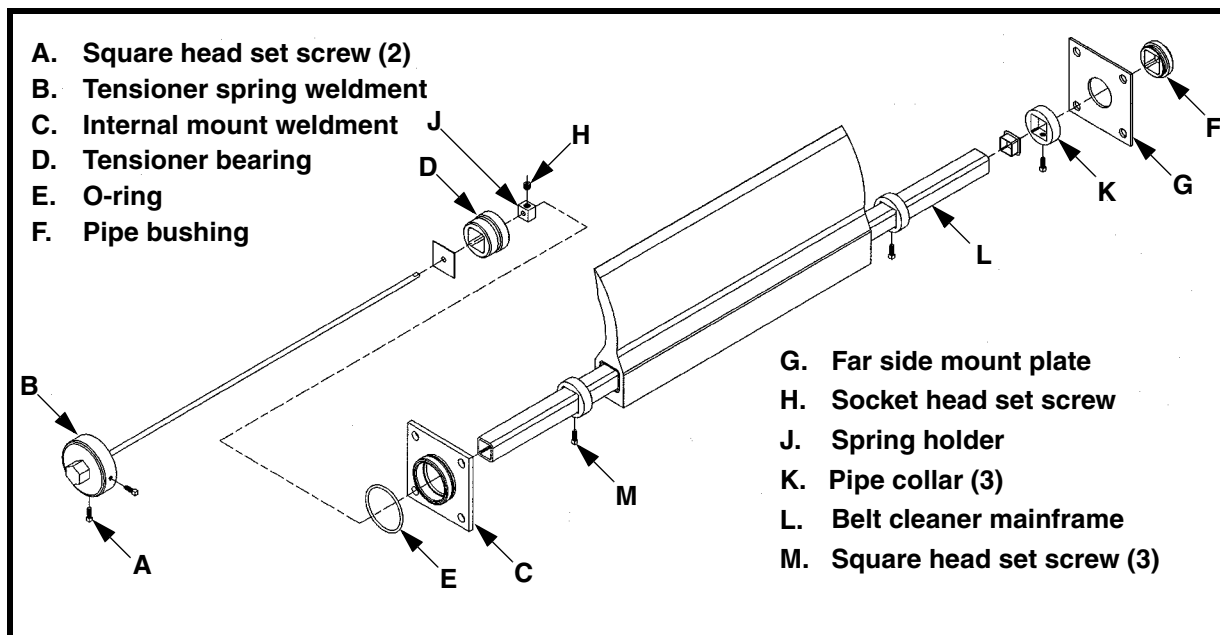

Figure 2. Internal Spring Tensioner Installation
1. Loosen two square head set screws (A, Figure 2) on tensioner spring weldment (B).
2. Using a screwdriver, pry tensioner spring weldment off internal mount weldment (C). Make sure tensioner bearing (D) and O-ring (E) stay on internal mount weldment.
1. Snap pipe bushing (F, Figure 2) into hole in far side mount plate (G).
2. Make sure one pipe collar (K) is on operator side end of belt cleaner mainframe (L) and two pipe collars are on far side end of mainframe.
3. Insert mainframe into pipe bushing (F) in far side mount plate (G), then into tensioner bearing (D) in internal mount weldment (C).
5. Insert tensioner spring weldment (B)—spring holder (J) end first—into mainframe.
8. Slide operator side and one far side pipe collar against blade. Slide remaining far side pipe collar against far side mount plate. Tighten square head set screws (M) on pipe collars.
- a. Loosen two square head set screws (A) on tensioner spring weldment (B).